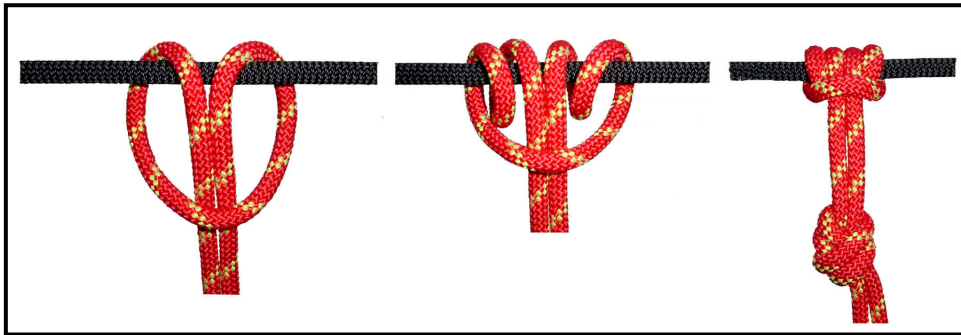

Figure 4-20. Middle-of-the-rope Prusik.
(1) ***Middle-of-the-Rope Prusik.*** The middle-of-the-rope Prusik knot can be tied with a short rope to a long rope as follows (Figure 4-20.):